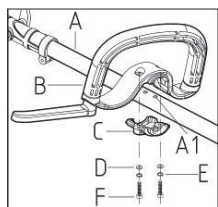

Fig. 6-1
**Assembling the front handle.** Fig. 6-1
- Align the position pin on the front handle (B) with one position hole (A1) of three on the tube (A), then fit the front handle assembly (B) and the clamp (C) on the tube (A) using two combinations of plate washer (D) spring washer (E) and screw (F).